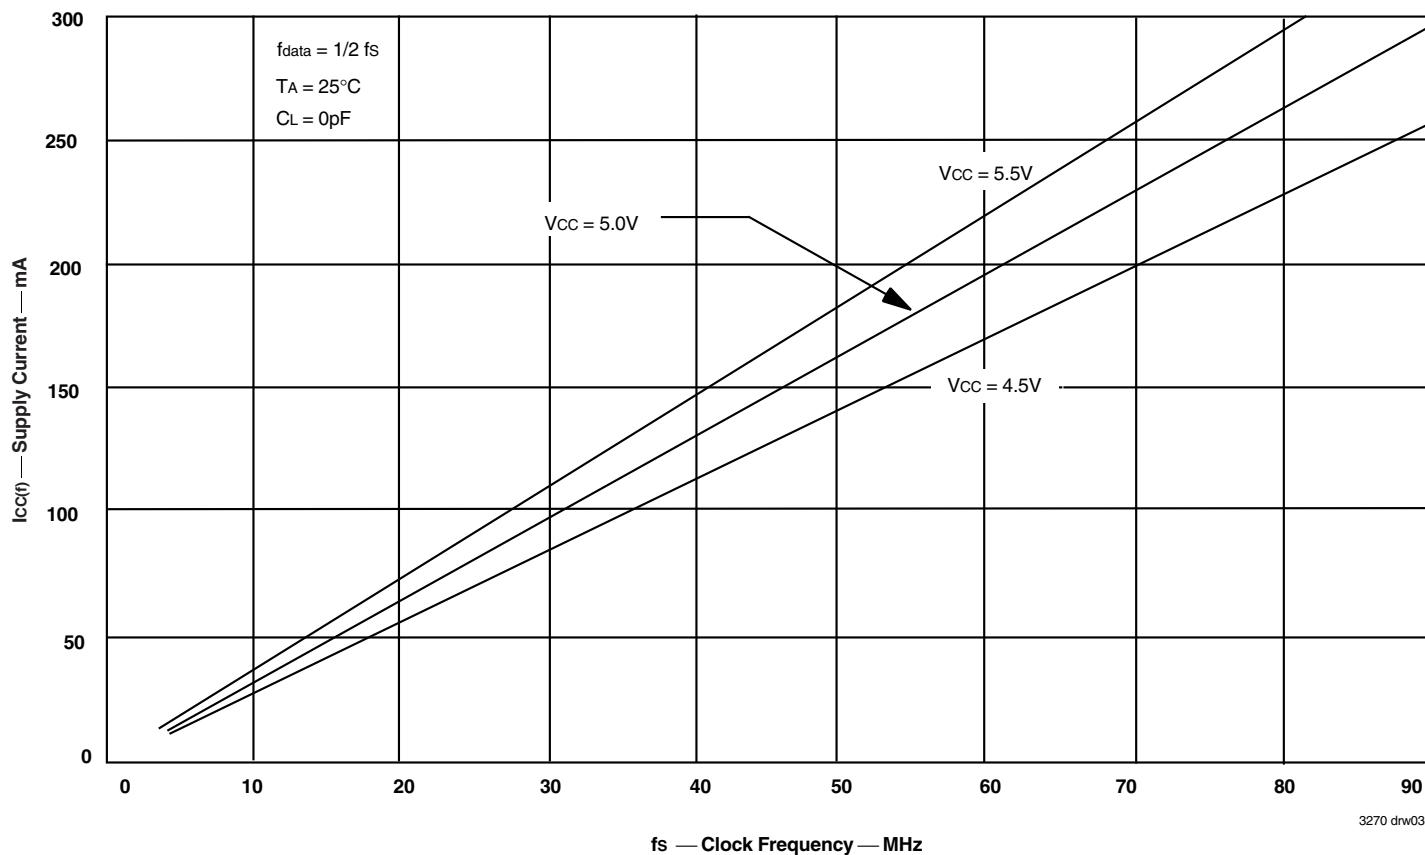

Figure 1. Typical Characteristics: Supply Current ( $I_{CC}$ ) vs. Clock Frequency (fs)
2. For additional ICC information, see Figure 1, *Typical Characteristics: Supply Current (ICC) vs. Clock Frequency (fS)*.
The  $I_{CC(f)}$  current for the graph in Figure 1 was taken while simultaneously reading and writing a FIFO on the IDT723624/723634/723644 with CLKA and CLKB set to fs. All data inputs and data outputs change state during each clock cycle to consume the highest supply current. Data outputs were disconnected to normalize the graph to a zero capacitance load. Once the capacitance load per data-output channel and the number of IDT723624/723634/723644 inputs driven by TTL HIGH levels are known, the power dissipation can be calculated with the equation below.
With  $I_{CC(f)}$  taken from Figure 1, the maximum power dissipation (PT) of these FIFOs may be calculated by: